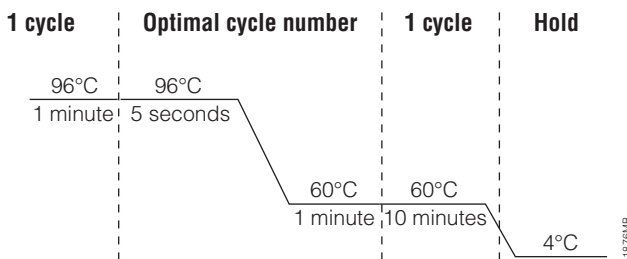

Figure 2. The thermal cycling protocol for the GeneAmp® PCR System 9700, Veriti® 96-Well Thermal Cycler and ProFlex™ PCR System.
2. Select and run the recommended protocol, which is provided below and in Figure 2. The total cycling time is approximately 1 hour.